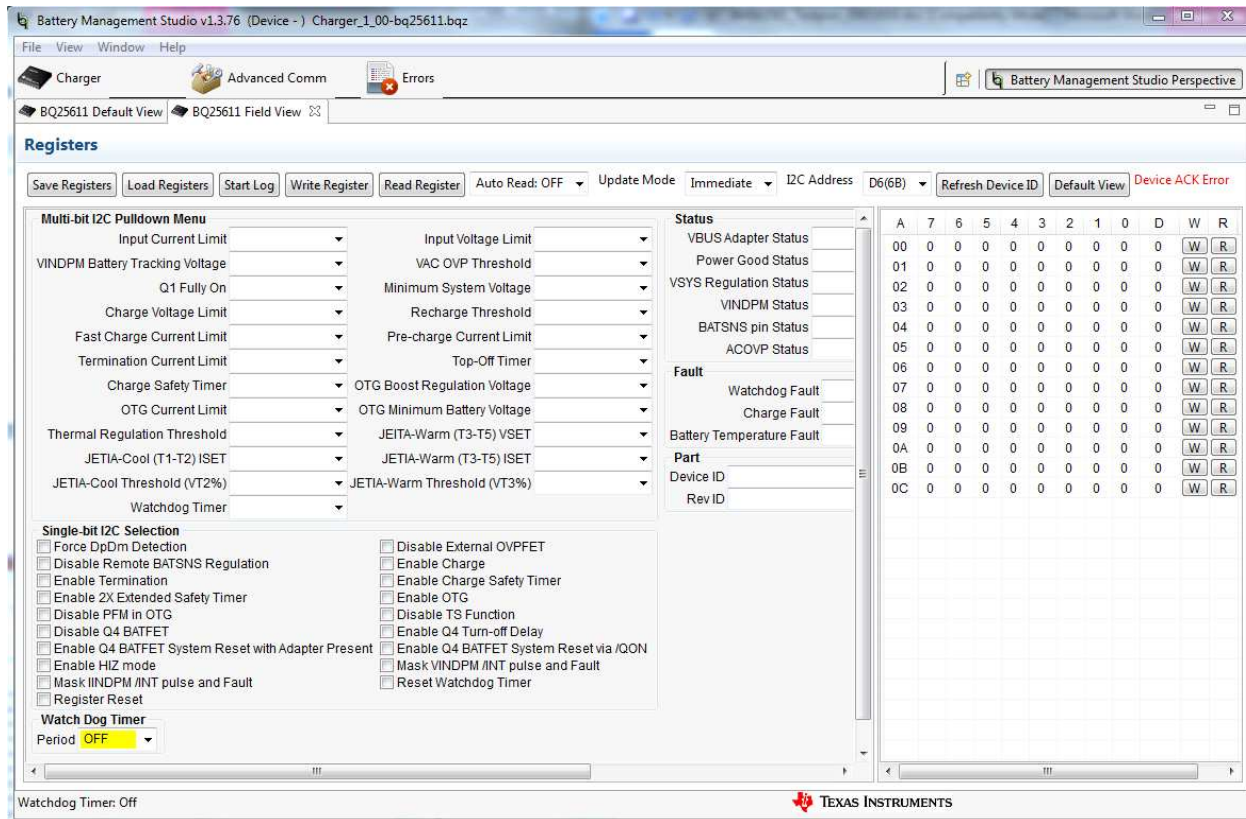

Figure 4. Main Window of BQ2561x EVM Software
3. Choose  , on the window that appears, and the main window of the BQ2561X EVM software will appear, as shown in Figure 4.
2. In the Field View (see Figure 4), make the following changes as necessary: